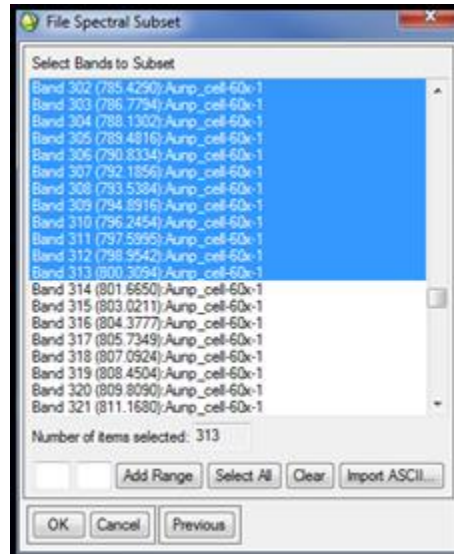

Figure 5.2j. Select the bands by using the Add Range boxes
- Then in the boxes to the left of Add Range enter 1 in the far left box and 312 in the box just to the right (this band corresponds to 800 nm) (Figure 5.2j).